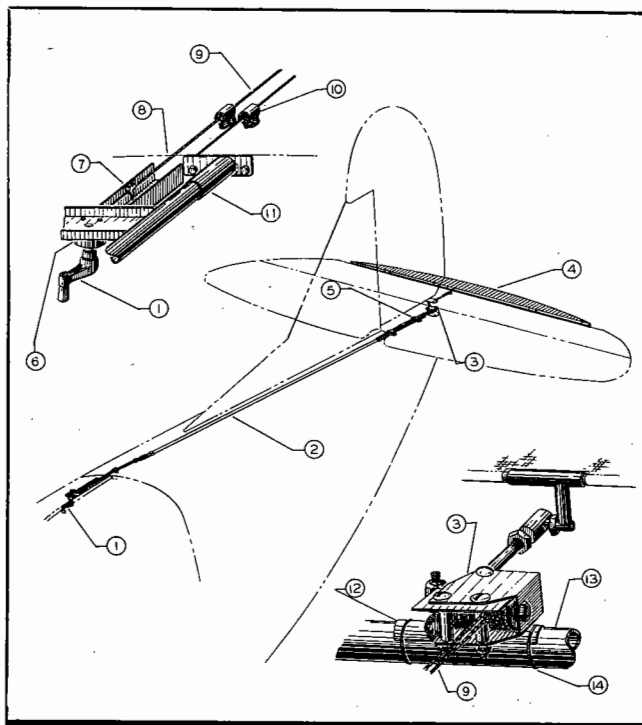
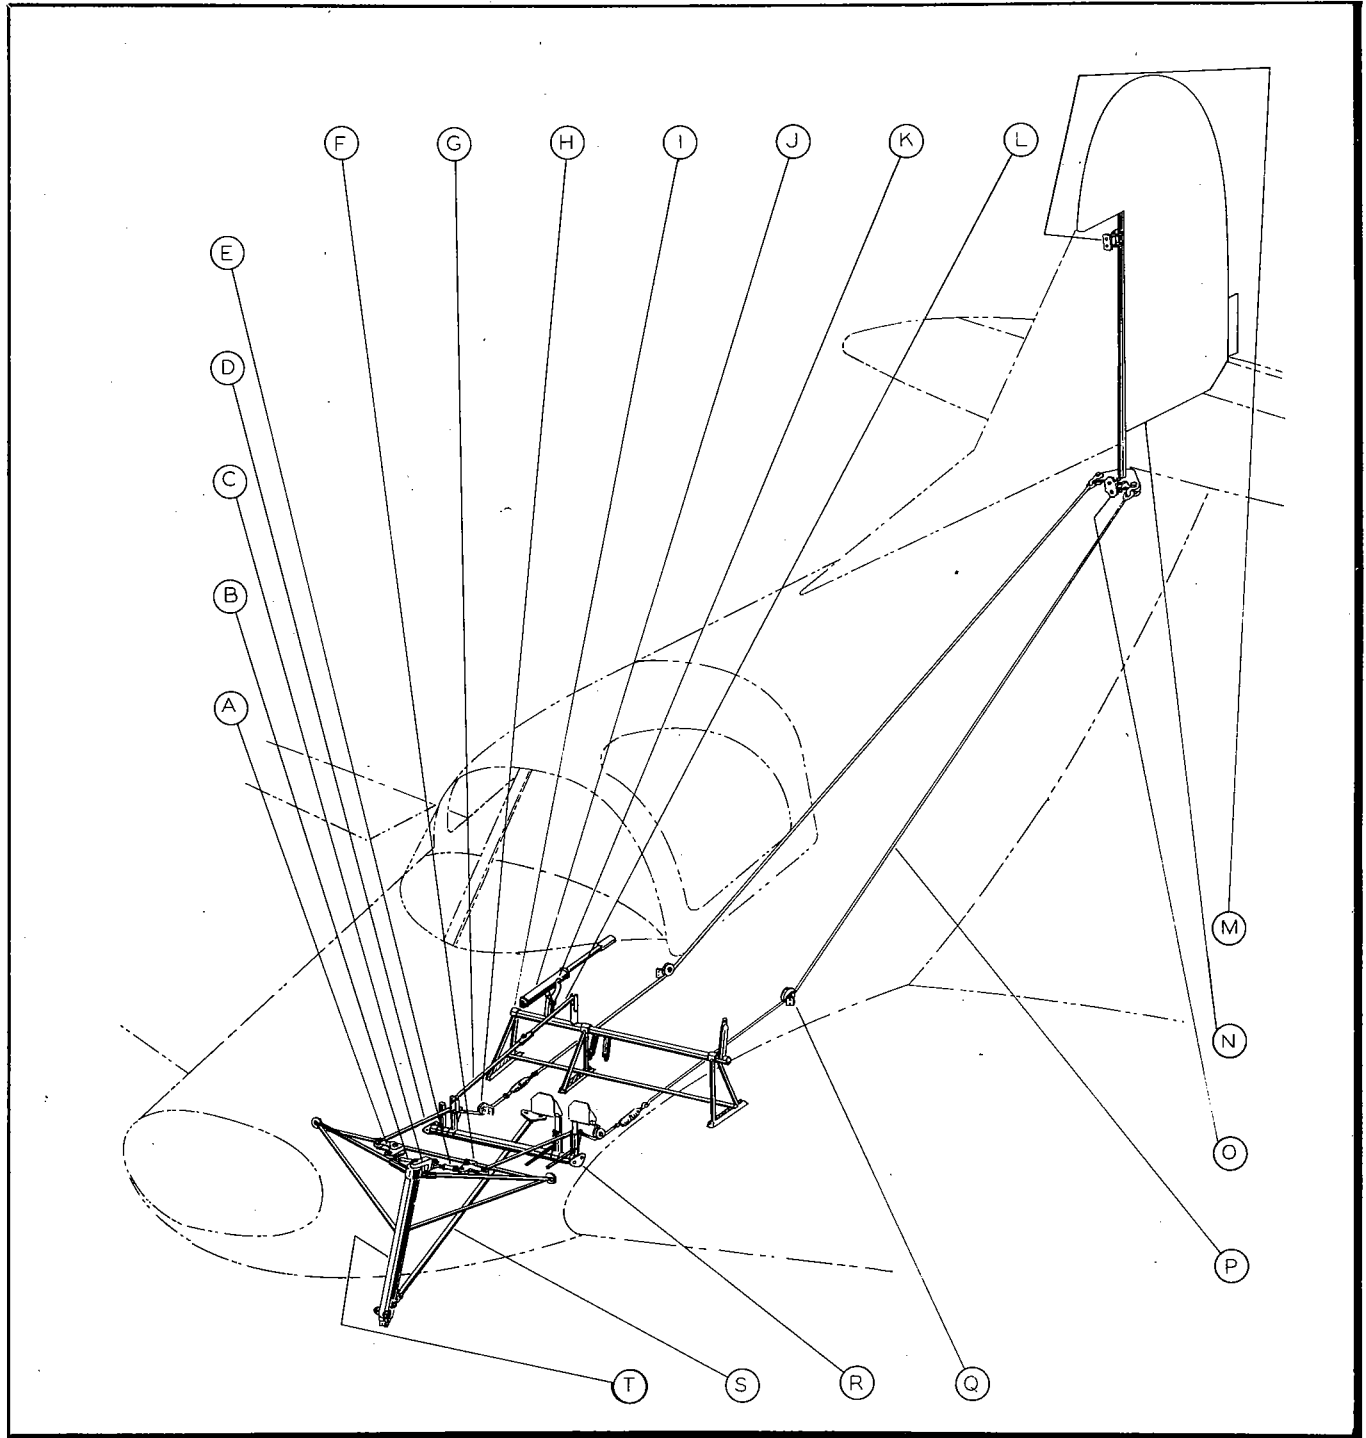

Figure 35—Tab Control System
Figure 36—Rudder and Nose Wheel Steering System—PQ-8A
(1) DESCRIPTION.—The tab consists of a steel tube spar and aluminum skin. It is hinged to the leading edge of the elevator at five points and is held in place by machine screws through the spar. The tab is operated by a cable-controlled worm gear unit mounted inside of the elevator.
(2) REMOVAL AND DISASSEMBLY INSTRUCTIONS.—Take out 10 hinge screws that hold the tab to the spar. Pull out the spar that hinges the tab to the elevator fittings. Disconnect the push-pull tube from the ball socket on the tab.
(3) REPLACEMENTS.—Replacement of a damaged tab is recommended if the damage is too great to maintain strength and balance.
(4) ADJUSTMENTS.—Adjust the elevator tab so that the up travel will be 12 degrees and the down travel 25 degrees.
(5) ASSEMBLY AND INSTALLATION.—Replace the tab spar and aileron hinge fittings. Install the 10 hinge screws that hold the tab to the spar. Connect the push-pull tube to the ball socket on the tab. (See figure 35.)
(6) FINAL TEST AFTER ASSEMBLY.—Check to see that the cables work freely and that the travel meets specifications.
d. RUDDER. (See figures 36 and 37.)
(1) DESCRIPTION.—The rudder is of welded-steel tube construction with metal ribs and is fabric-covered. Two ball-bearing hinges attach the rudder to the fin. Two rudder cables connect to the rudder horn and actuate the rudder.
(2) REMOVAL AND DISASSEMBLY INSTRUCTIONS.—The rudder can not be removed until the stabilizer is removed. Disconnect the rudder cables from the rudder horn. Tie a wire to each cable so that they will not be lost in the fuselage. Take out the two rudder hinge bolts. The rudder can then be removed.
(3) REPLACEMENTS.—Replacement of a damaged rudder is recommended if the damage is too great to maintain both strength and balance.
(4) ADJUSTMENTS.—Adjust the rudder movements to 31 degrees left and 31 degrees right.
(5) ASSEMBLY AND INSTALLATION.—In order to make the installation the stabilizer must be removed. Install the upper and lower hinge bolts. Connect the rudder cables to the rudder horn. Adjust the cables when in neutral position to 15 pounds tension.
Key to Figure 35
Key to Figure 36